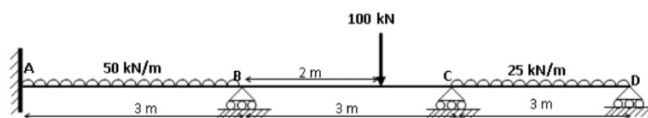

Figure: 6
7. Analyse and draw BMD for the continuous beam supported and loaded as shown in Figure 6, if the support B sinks by 10 mm. Use Clapeyorn's theorem of three moments. Adopt $E = 200 \text{ GPa}$ and $I = 75 \times 10^6 \text{ mm}^4$. [15]